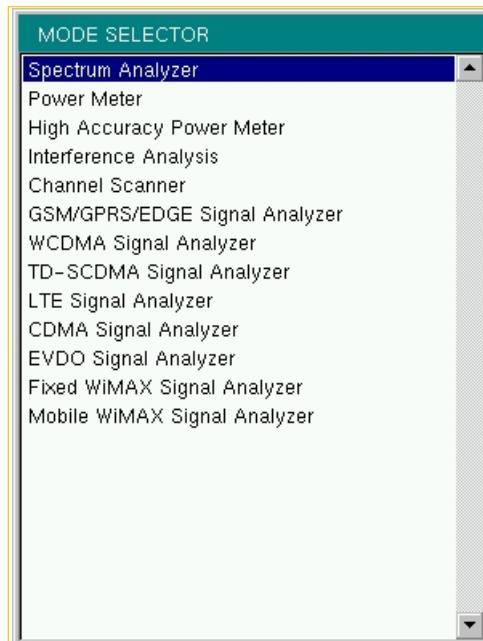

Figure 2-4. Mode Selector Menu
To access the functions under the Mode menu, select the **Shift** key, then the **Mode** (9) key. Use the directional arrow keys or the rotary knob to highlight the selection, and press the **Enter** key to select. The list of modes that appears in this menu will vary depending upon the options that are installed and activated in your instrument. **Figure 2-4** is an example of the Mode menu. Your instrument may not show the same list.